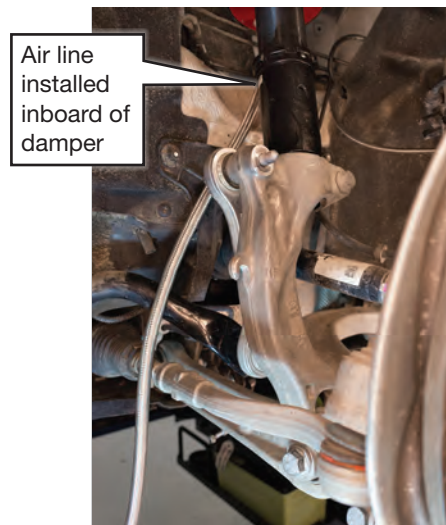

fig. D.8
2. Install the shock with the air line on the inboard side (Fig. D.8).